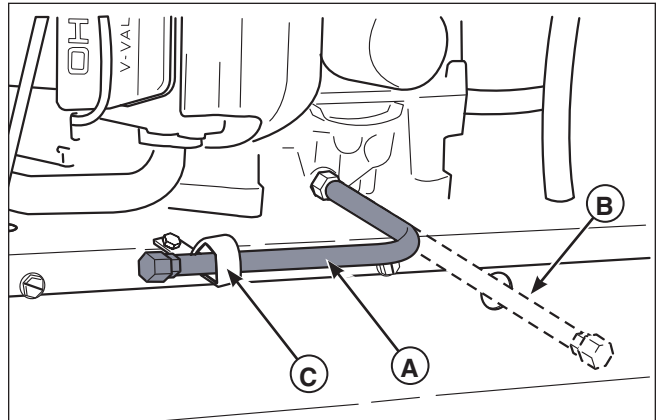

Figure 12. Engine Oil Drain
2. Remove the oil drain hose (A, Figure 12) from the cable clamp (C) on the back left-hand side of the engine deck and route over the back of the engine deck as shown in Figure 12.
3. Place a small pan under the oil drain hose to catch the oil. Using the appropriate tools, remove the cap from the oil drain hose (A) and drain the engine oil.